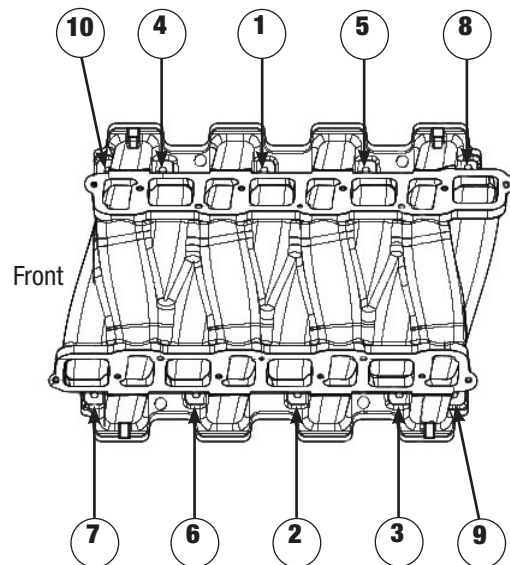

Figure 3 - Intake Manifold Tightening Sequence
3. Secure the manifold to the cylinder heads by installing ten (10) of the supplied M6 X 45mm hex head bolts and finger tighten. Fully tighten the bolts using a 10mm socket in two steps to 96 inch/lbs. (8 ft/lbs.), following the torque sequence shown in **Figure 3**.